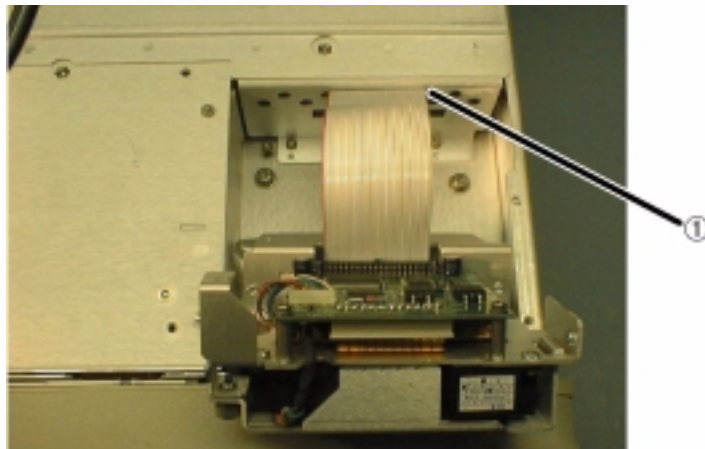

Figure 3-42. Disconnecting the printer ribbon cable from the mezzanine board
- 6 Remove the 44-pin ribbon cable from the mezzanine board. See ① in Figure 3-42 below.